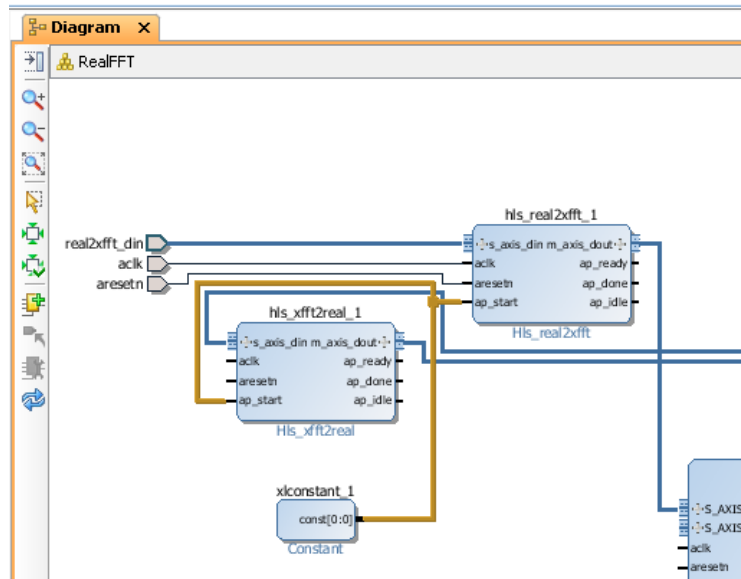

Figure 206: Connect AP_START to Constant 1
- f. Connect ap_start of both HLS blocks to the Constant block (**Figure 206**).